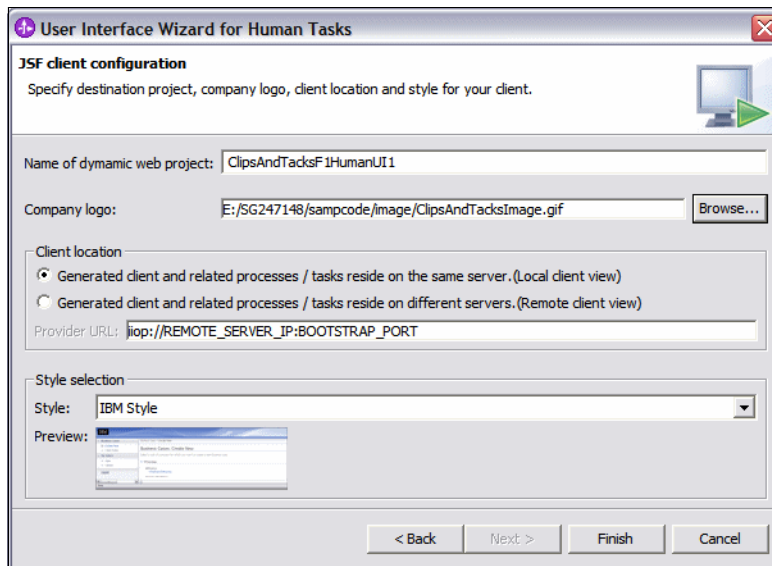

Figure 10-68 Generated user interface Web application
- ▶ In the JSF client configuration page (Figure 10-68), select a name for the dynamic Web project that will be created for the user interface, for example: